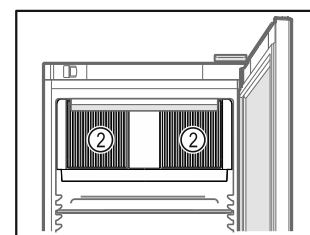

Fig. 48
- Ventilation slots *Fig. 48 (2)* for recirculation fan in the interior must be kept clear.